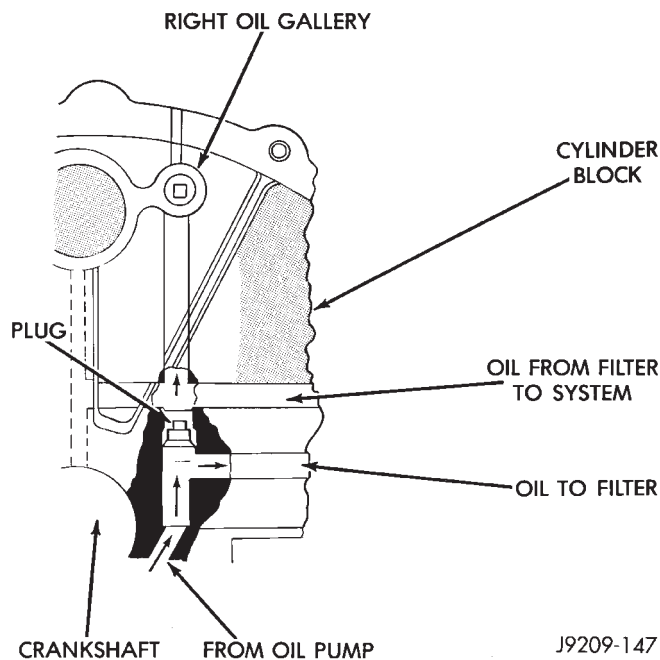

Fig. 6 Oil Line Plug
(1) Remove oil pressure sending unit from back of block.
(2) Insert a 3.175 mm (1/8 inch) finish wire or equivalent into passage.
(3) Plug should be 190.0 to 195.2 mm (7-1/2 to 7-11/16 inches) from machined surface of block (Fig. 6). If plug is too high, use a suitable flat dowel drift to position properly.